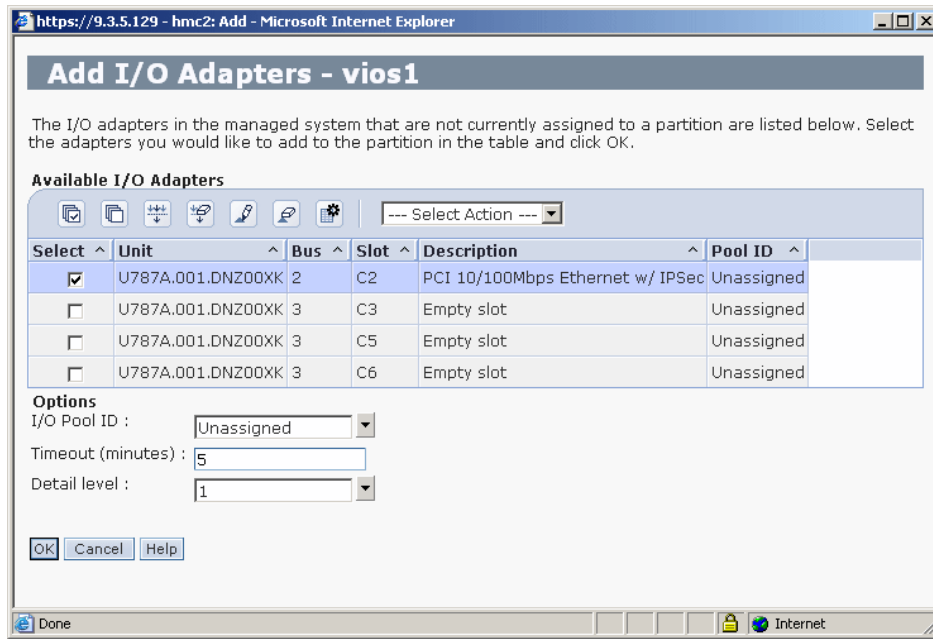

Figure 6-16 Select physical adapter to be added
- The next window will look like the one in Figure 6-16. Select the physical adapter you want to add to the partition: